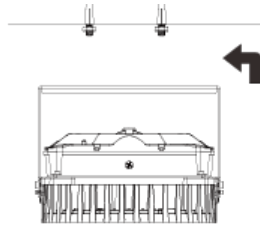
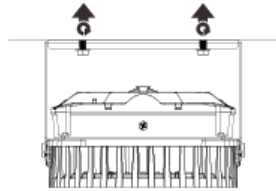

Figure 3
Figure 4
3. Align the bracket hole with screw hole (figure 3), and push the fixture to one side (figure 4) and secure it.